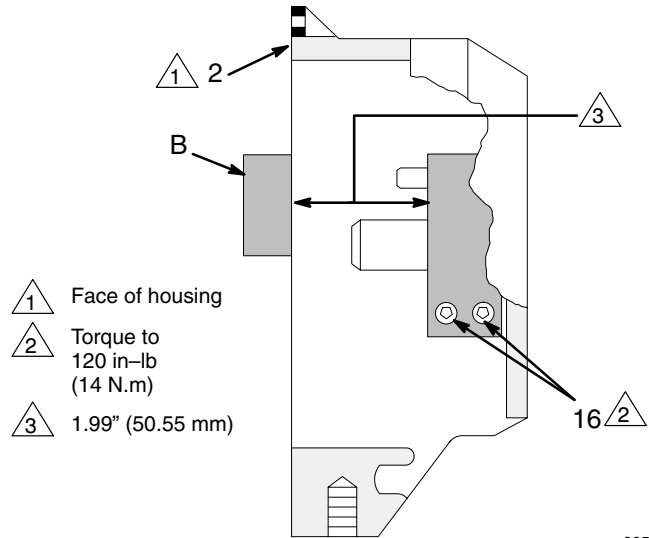

Fig. 18
3. Press the **clamp (3)** onto the engine shaft. Maintain the 1.99 in. \pm 0.01 (50.55 mm) dimension shown in Fig. 18.